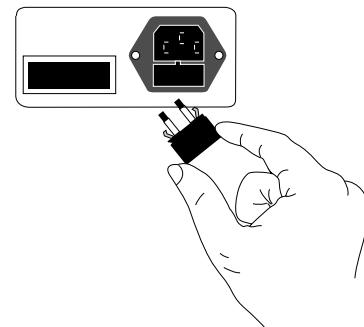

Figure 26
4. See Figure 26. Push the fuse holder back into the unit until it snaps into place.